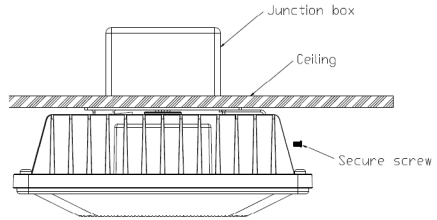

FIG.7
5. Hinge Fixture to leveled position and push Fixture backwards, slipping the Front Steel Rod into mounting slots. Secure fixture in position by the secure screw pushing the fixture and preventing it moving (see FIG. 7).